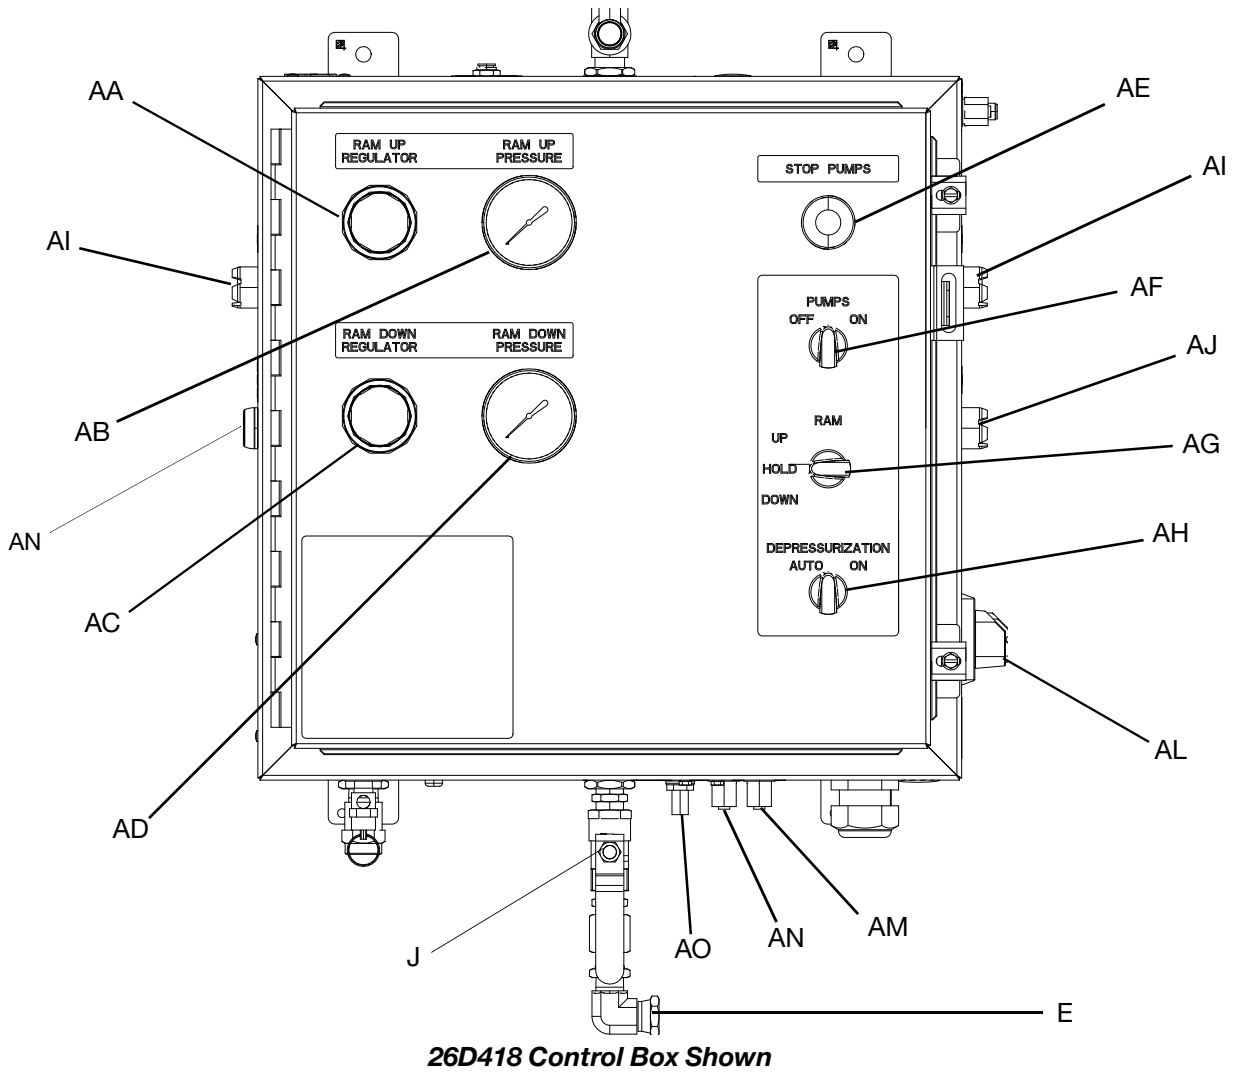
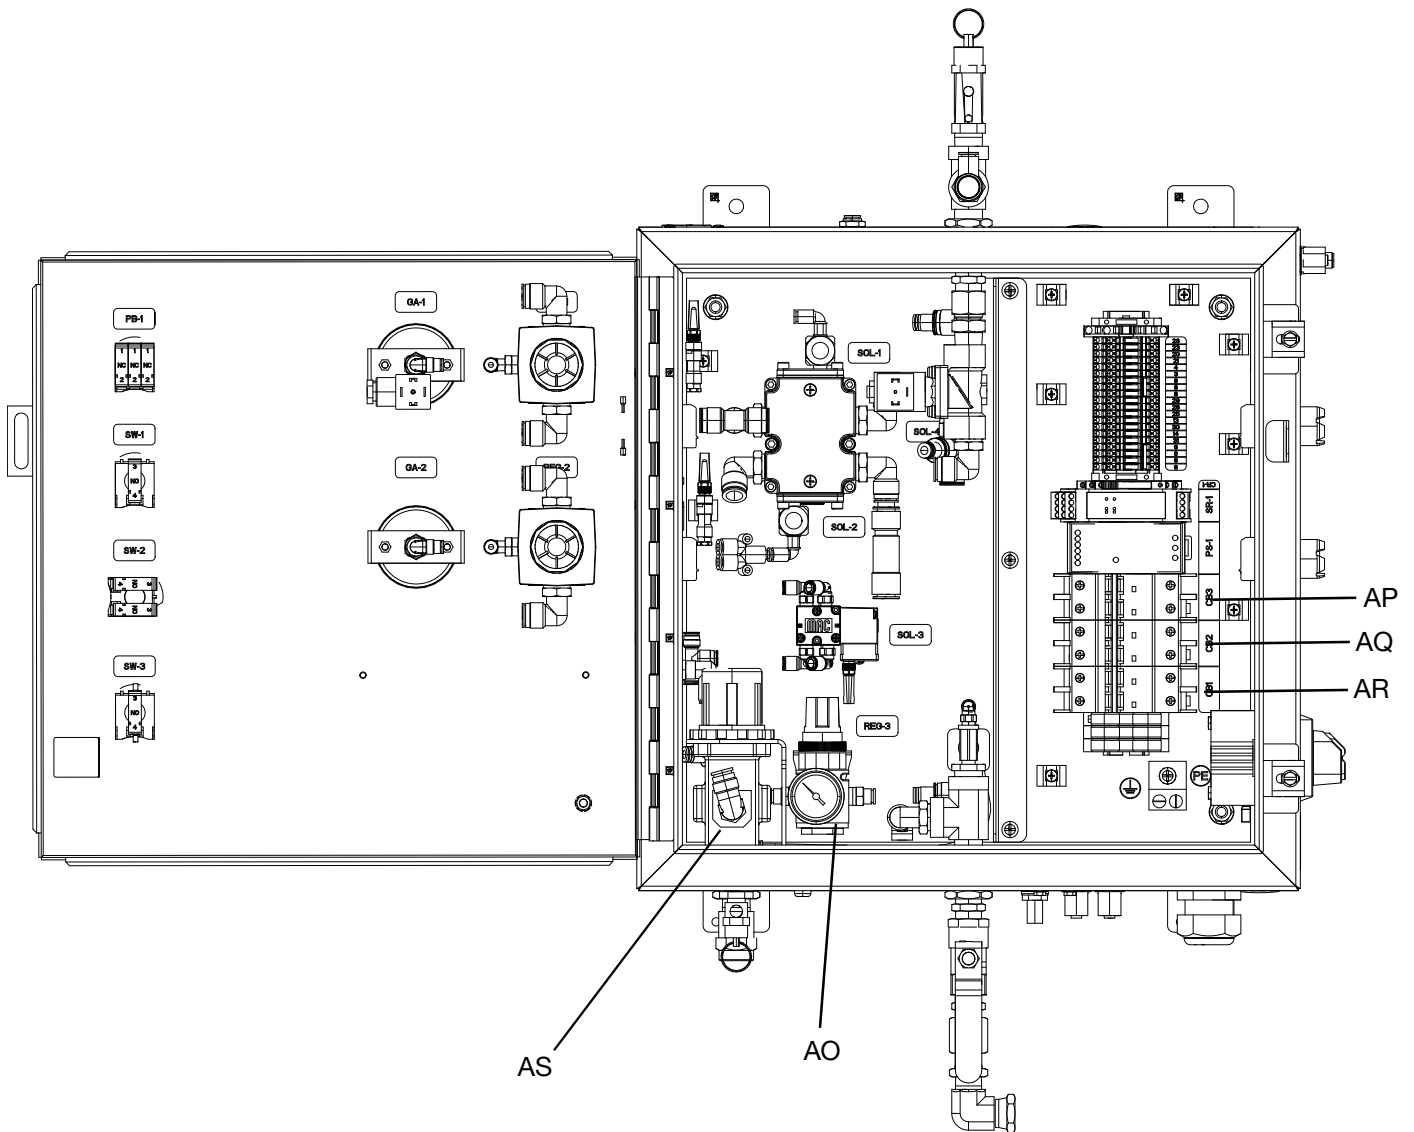

FIG. 3: Control Box
Fig. 4: Control Box Interior
Use the table and FIG. 3 when operating the switches and reading the indicators on the Control Box (F).
See FIG. 3 on page 13 and FIG. 4 on page 14.